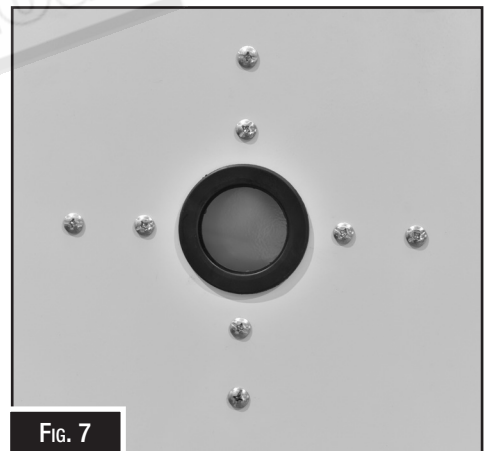
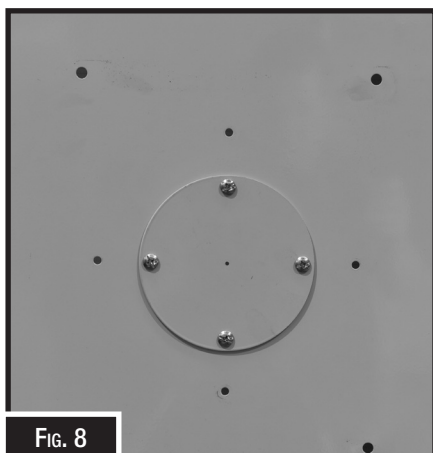

Fig. 7
Fig. 8
3. Using the existing holes (Fig.7), bolt on to the blast cabinet the sacrificial plate supplied to aid in this process when using a 100mm hole saw. (Fig. 8)